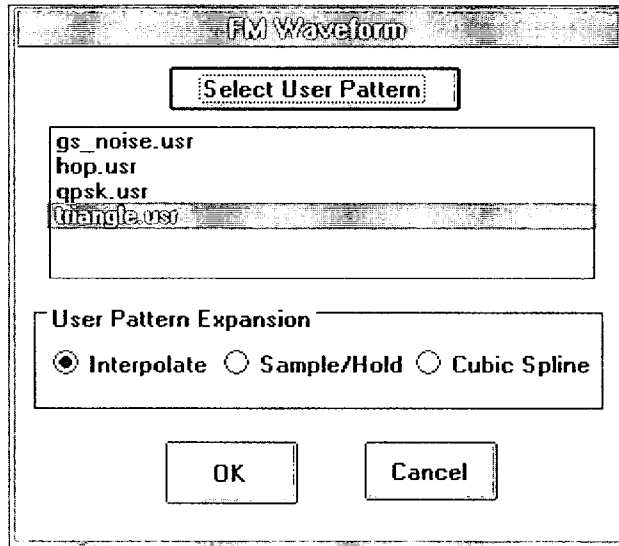

Figure 2-5. FM Waveform Dialog Box
5. When the FM Waveform dialog box (Figure 2-5) is displayed, click on `triangle.usr` to highlight the line. Then select **Select User Pattern**.